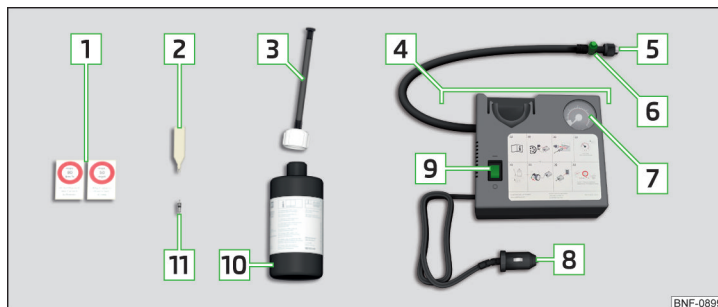

Fig. 266 Description of the breakdown kit
- › Attach the valve remover  » Fig. 266 on page 226 onto the valve insert, so that the valve insert fits into the slot of the valve remover.
- › Screw the air compressor tyre inflation hose  » Fig. 266 on page 226 firmly onto the tyre valve.